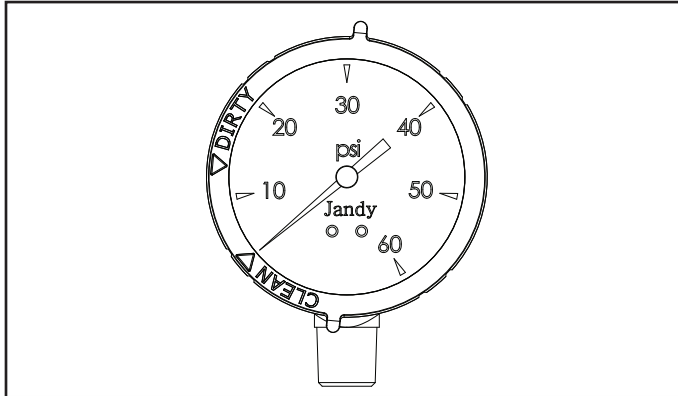

Figure 7. Pressure Gauge with Clean/Dirty Snap Ring
9. After the pressure gauge has stabilized, turn the bezel ring so that the arrow next to the word "CLEAN" aligns with the needle of the gauge. See Figure 7. As the filter cleans the water, and the cartridges begin to clog the pressure begins to increase. When the needle of the pressure gauge aligns with the arrow next to the word "DIRTY" on the bezel, it is time to clean the filter, see Section 6.3. This indicates an increased pressure of between 10 and 12 psi above original starting pressure.
6. Check breather tube for obstructions or debris. If necessary, remove the breather tube and flush with running water until the obstruction or debris is cleared. See Figure 7.